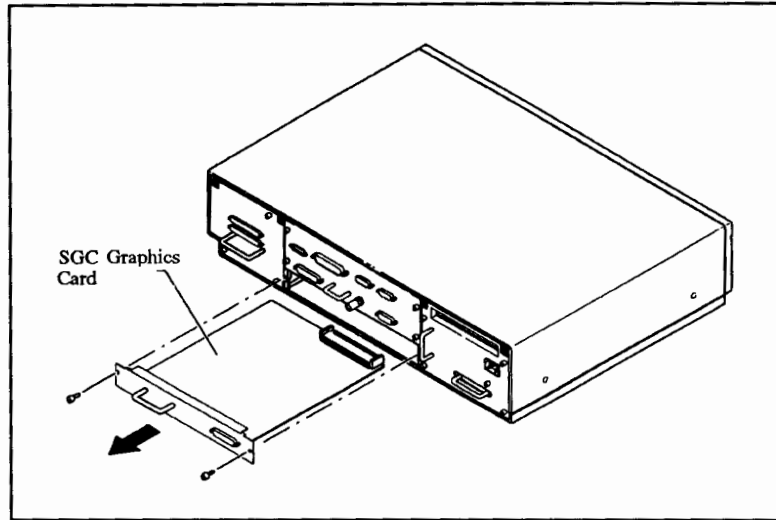

Figure 5-1. SGC Graphics Card Removal
- 2). Remove the SGC Graphics card from the bottom slot of the System Unit cabinet as shown in Figure 5-1.